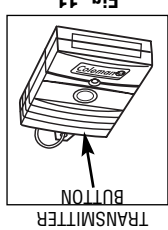

Fig. 11
2. Push the button on the remote control transmitter: a) once for "HIGH" light setting, twice for "LOW" light setting, a third time will turn light "OFF". (Fig. 11)